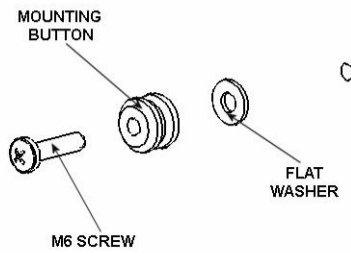

Figure 3
2. Attach mounting buttons to display using the appropriate number of M6 x 30 mm screws and flat washers provided (See Figures 3, 4, and 5).